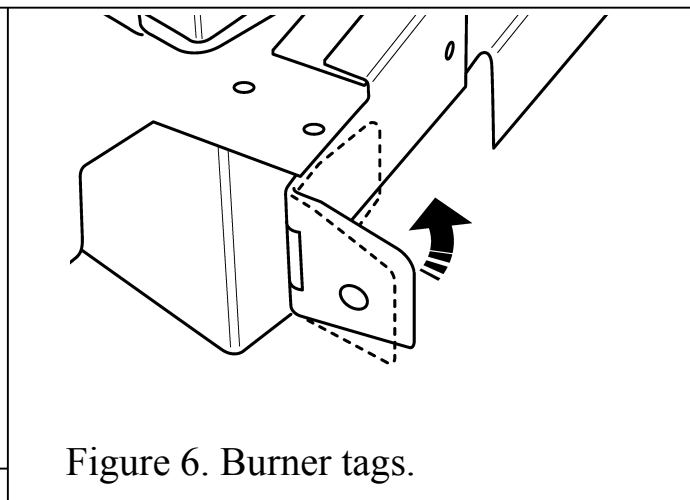

Figure 6. Burner tags.
- The two tags at the side of the burner can be folded against the side of the burner tray. This may be required for installations where the width of the fireplace opening is restricted or where the burner is used with the 'Liberty' casting (See figure 6)